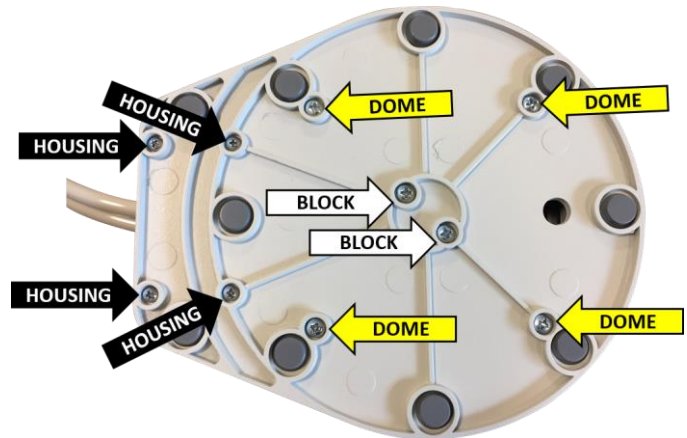

Fig. 1
- Referring to Fig. 1, remove toggle "HOUSING" screws (black arrows).